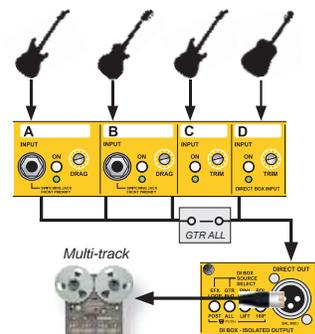

Fig.42 - All instrument inputs are assigned to the DIRECT OUT to record a dry track for re-amping.
**EXAMPLE 4: RECORDING ALL INSTRUMENTS (Fig.42)**
This setup would be used as the first step for re-amping. The DI OUT is connected to a multi-track recorder for the purpose of recording a dry track (no effects or distortion) during a live concert (Fig.42). The dry track preserves the excitement of the original performance and it can be used later in post production to re-amplify guitar tracks through the X-AMP interface as described later in this manual. To accomplish this the GTR switch is set to the inward position ( ALL  ) so all the instrument signals are routed to the DIRECT OUT.